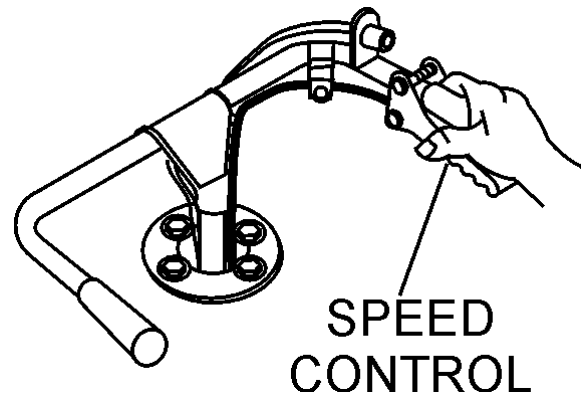

Figure 16. Speed Control Lever
3. Check the speed control lever (Figure 16) located on the right side of the handle bar. The speed control should work freely when squeezed by hand, and return to the closed position when released.
5. Slowly squeeze the speed control lever slightly (Figure 16), for a short period of time to test the brake holding capacity. If the buggy moves forward, adjust the brakes as outlined in the maintenance section of this manual.
2. Squeeze the speed control lever (Figure 16) slightly until the buggy begins to move in a forward direction. Initially, let the buggy travel at about 3 MPH.